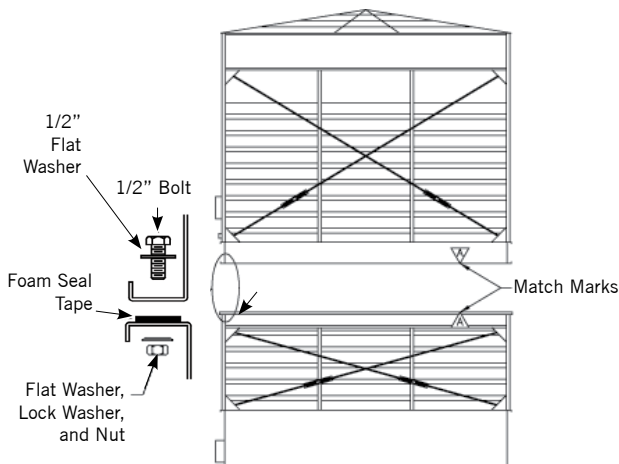

Figure 4. Upper and Lower Assembly for Series 3000 Cooling
4. Install foam seal tape (BAC part # 270175) supplied with the unit, as illustrated in **Figure 4**, on the mating flanges of the lower section in a continuous line. At each corner, allow 1" overlap.
- Match marks must line up as shown in **Figure 4**.
- b. Install foam seal tape (BAC part # 270175) supplied with the unit, as illustrated in **Figure 4**, on **page 5** on the mating flanges of the lower sections in a continuous line. At each corner, allow 1” overlap.
- Match marks must line up as shown in **Figure 4** on **page 5**.